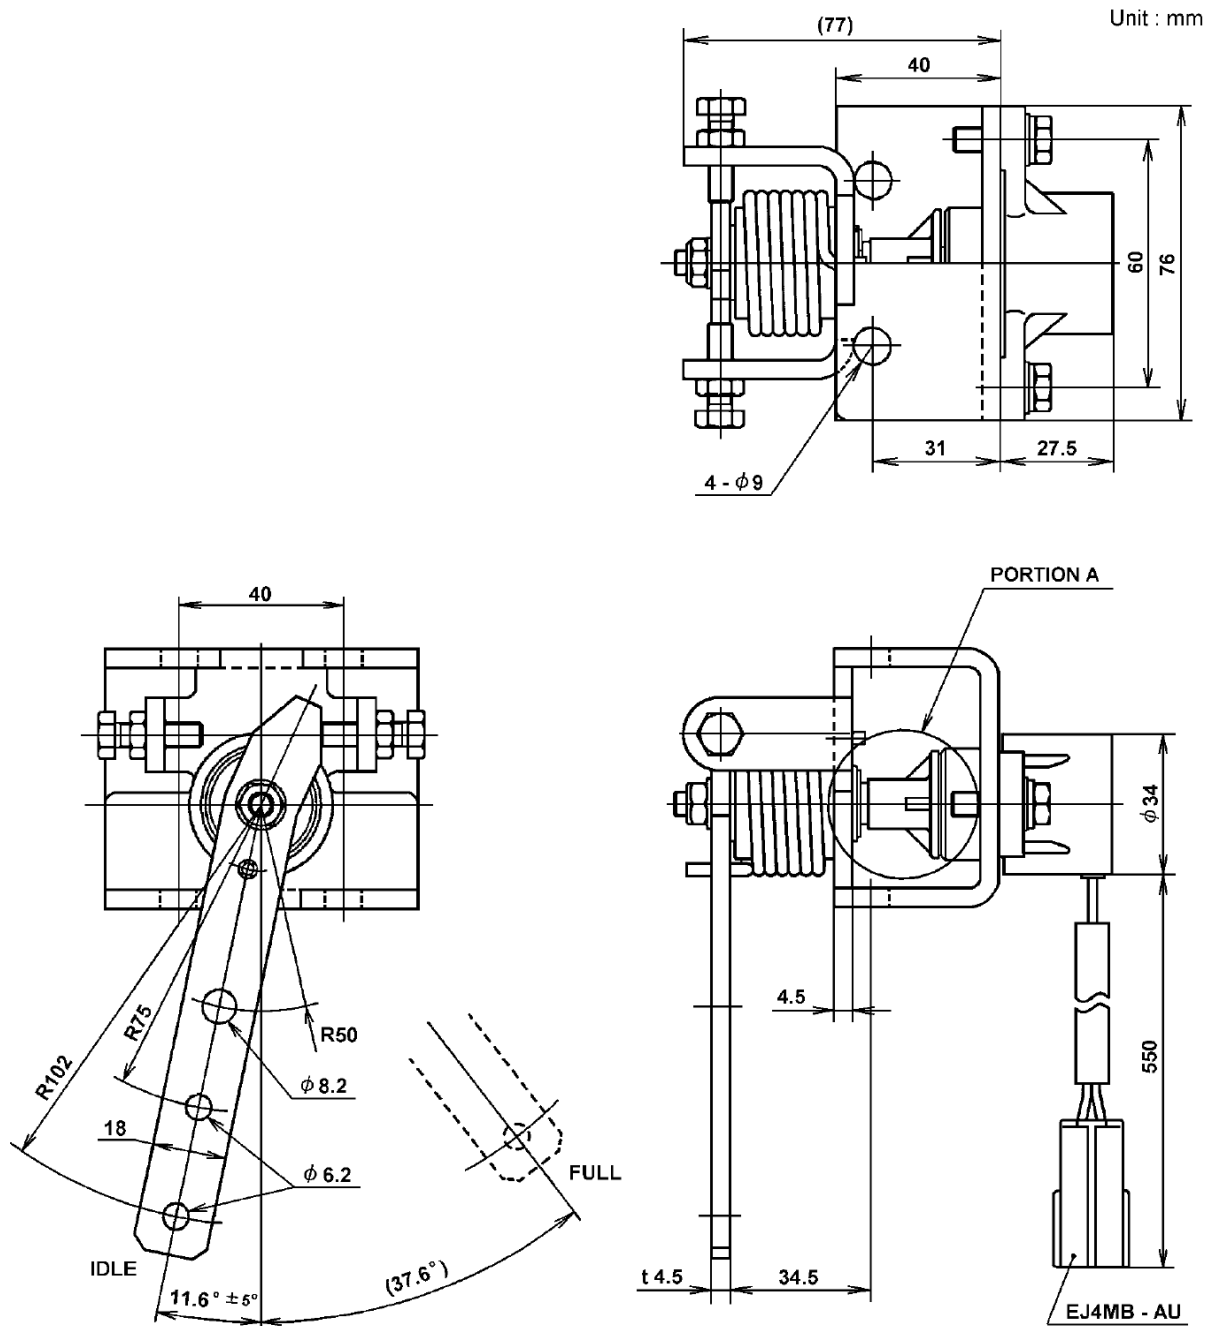

Fig. 1 Engine Control Lever (Part No. 25960 ND00A)
- Bracket must be manufactured by the body manufacturer. For detail concerning the control lever installation hole dimensions, refer to Fig. 1.
- Install the control lever at a position where water is not directly splashed. Especially, in the cases (including car wash) where water is splashed directly on the coupling in the lever (at the portion A in Fig. 1), put a cover on it.